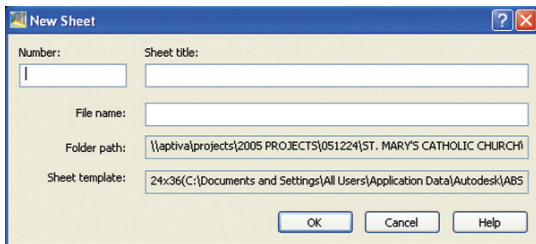

Figure 8
- Create and open a detail sheet or open a detail sheet you have already created. (Figure 8). The sheet name and number will automatically appear on the sheet file.